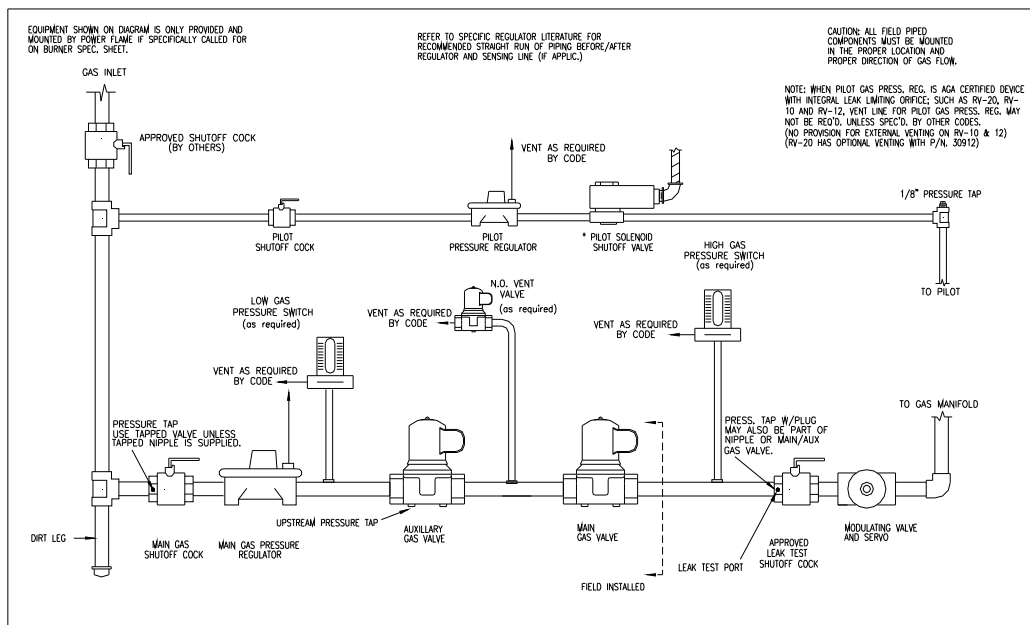

Figure 3: Typical Gas Piping Schematic for Model NP2 Burner, U.L. Listed
10. Proper test equipment must be used in order to achieve maximum system operational reliability and fuel efficiencies. See item 12, page 12 for equipment lists. Also, refer to Figure 3 (Exploded View) for the air and gas pressure connection ports.